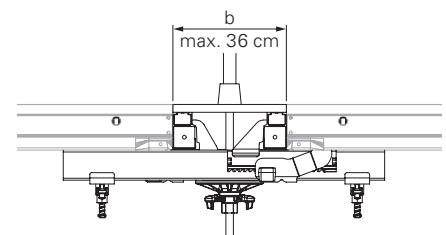

Fig. D8.02b
- When anchoring, ensure that the tie forces are transferred centrally through the Compensation Waler-4 MAR 85 (**33**) to the adjacent panels. (Fig. D8.02b)